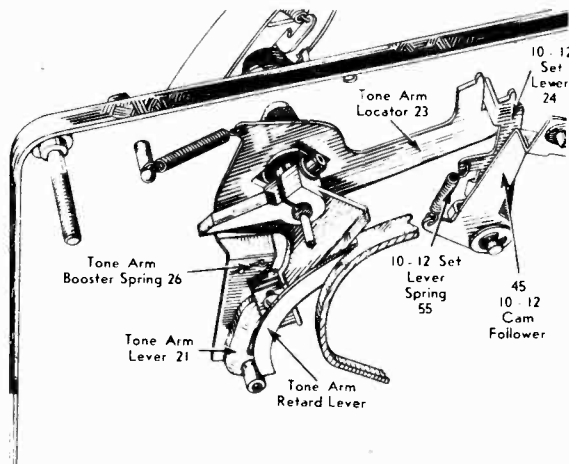

FIG. 25. CUTAWAY—BOTTOM VIEW
1. Study the text and Fig. 25 on page 18. Ex-